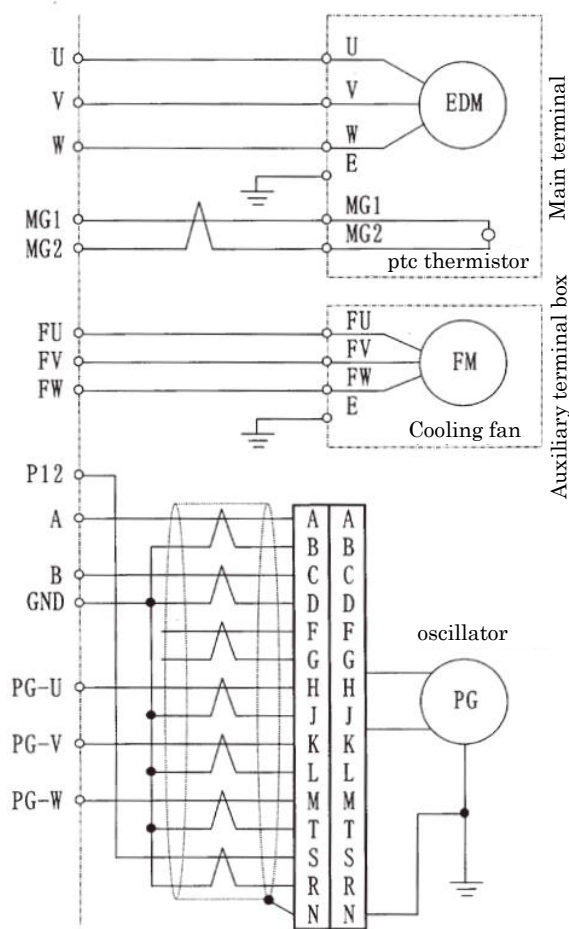
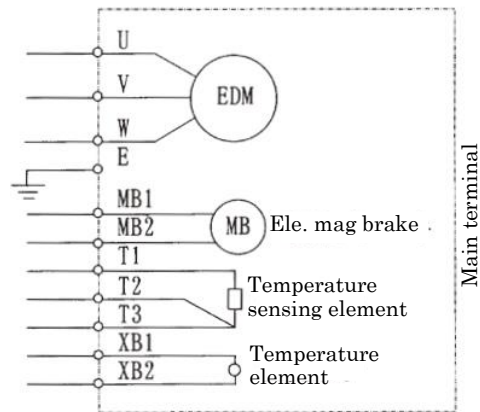

Fig. 5
Fig. 6
Fig. 5 shows the standard connection diagram. In case that the temperature sensing element (pt100Ω), temperature element (bimetal type) and electromagnetic brake are provided, all these terminals are housed in the main terminal box and their terminal symbols are as shown in Fig. 6.
- (1) Terminals must be connected correctly in accordance with connection diagrams (Fig. 5, Fig. 6). Due attention should be paid to the following points.